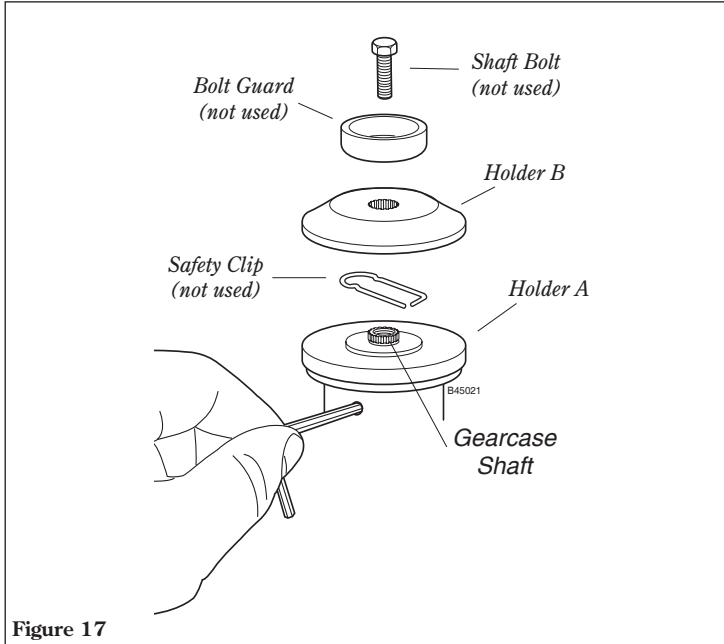

Figure 17
1. With the gearcase output shaft facing up, rotate the gearshaft and holder A until the hole in holder A aligns with the matching hole in the gearcase flange, and then lock the holder to the gearcase by inserting the long end of the hex wrench through both holes. See Figure 17.
2. Using the combination spark plug/screwdriver wrench, remove the shaft bolt, bolt guard, holder B and the safety clip. (The bolt guard, shaft bolt and safety clip are not used with a trimmer head). See Figure 17.